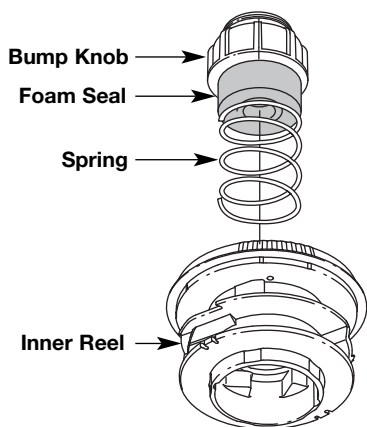

Fig. 19
2. Pull out the bump knob, spring and foam seal (Fig. 19).
7. Place the bump knob, spring and foam seal onto the inner reel (Fig. 19).